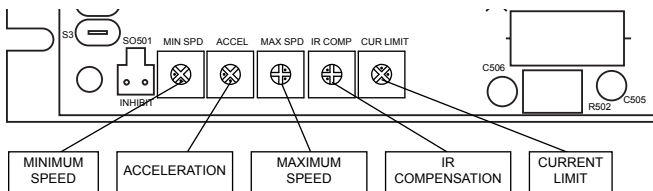

Figure 12. Calibration Trimpot Layout
All adjustments increase with clockwise rotation (CW), and decrease with counter-clockwise rotation (CCW). Use a non-metallic screwdriver for calibration. Each trimpot is identified on the printed circuit board (see Figure 12).